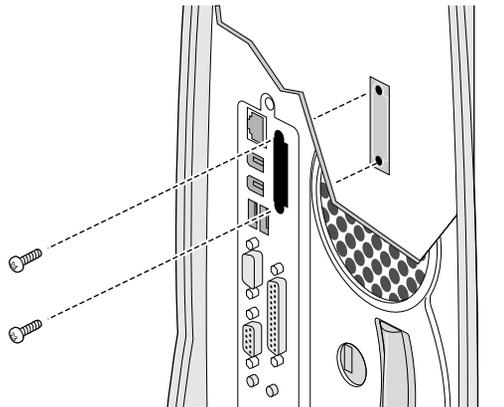

Figure 5-5 Removing the Display Option Slot Cover Plate
4. Remove the cover plate from the display option slot on the back of the system, as shown in Figure 5-5.